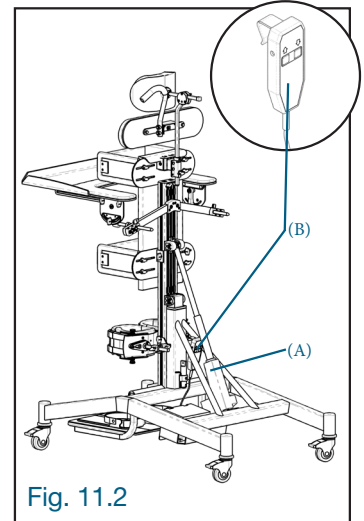

Fig. 11.2
11.2 TILT ADJUSTMENT (fig. 11.2)